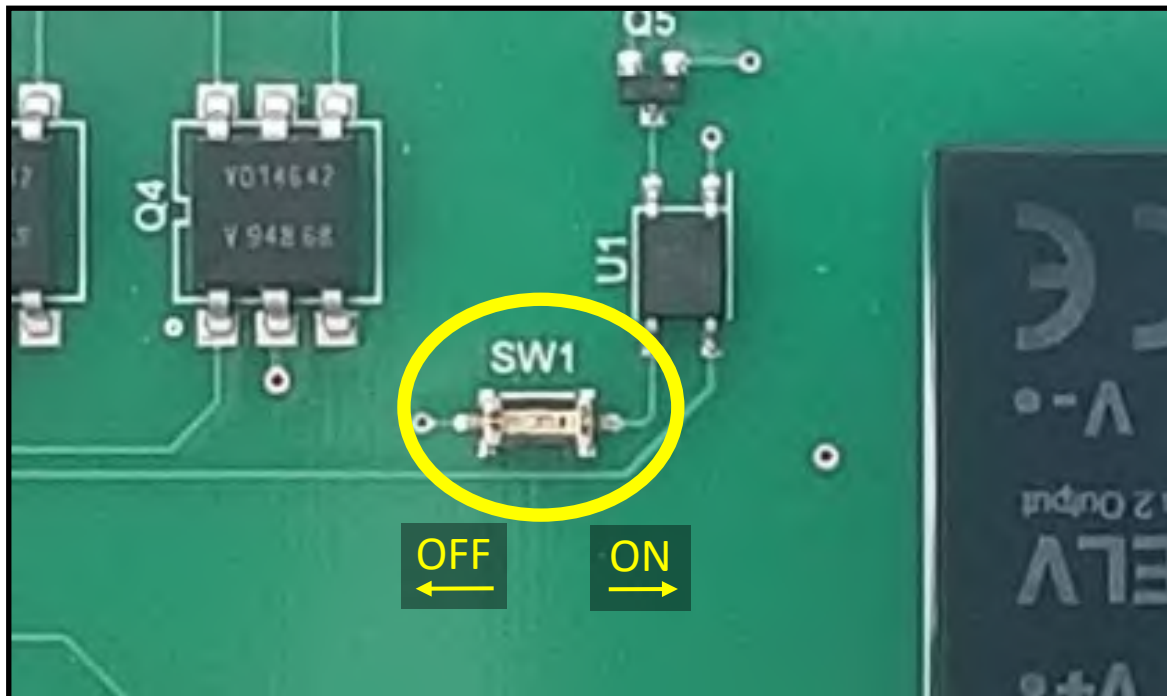

Figure 3
4. Flip the Relay Activation Switch to the “ON” position as indicated in Figure 3.
4. Flip the Relay Activation Switch to the "OFF" position as indicated in Figure3.